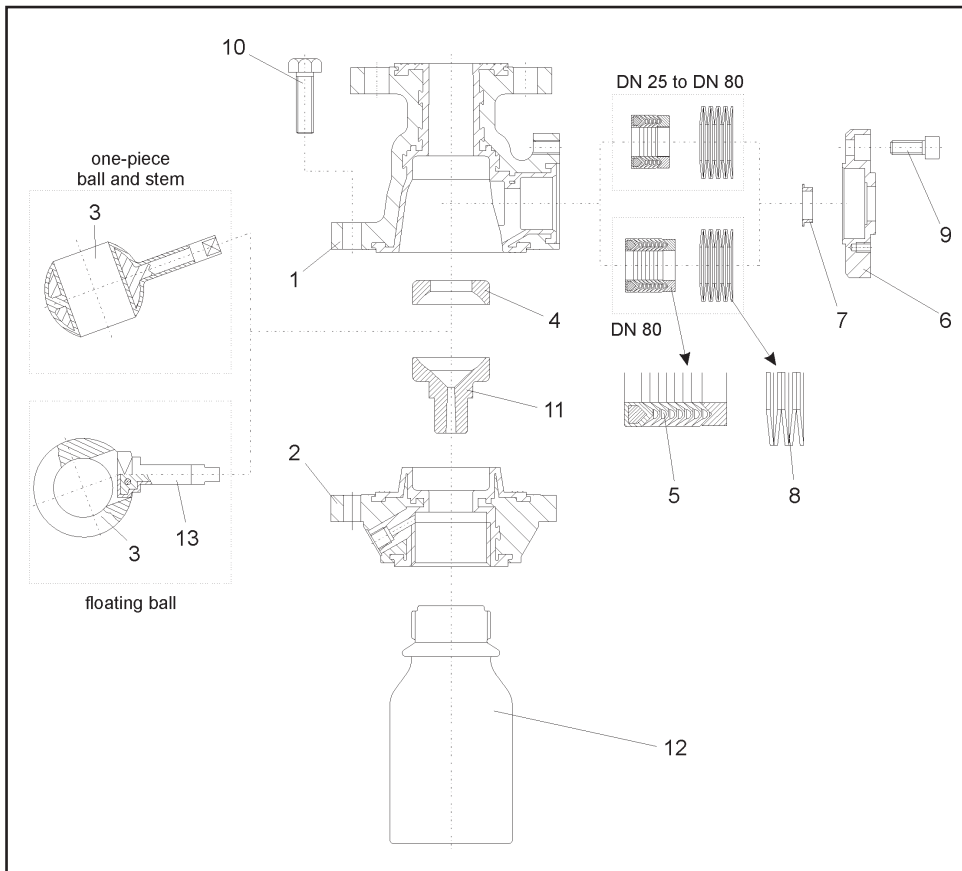

Fig. 3 - Explosion drawing of the sampling valve Series 27m
**Note:** The position and arrangement of the individual parts shown in the explosion drawing (Fig. 3) must be observed when assembling the valve.
For the assembly of the spring washers, refer to the explosion drawing ( Fig. 3 )